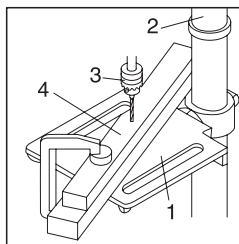

Fig2
■ POSITIONING WORK PIECE (FIG 2)